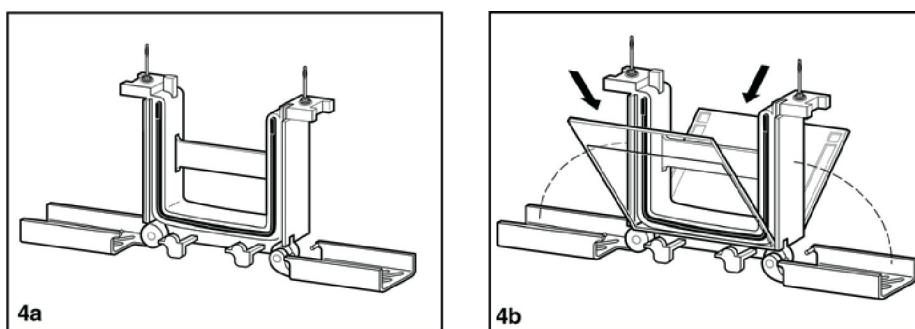

Figure 4a–4b: Loading the gel sandwiches into the electrode core
- (1) Place the gel cassette, in the open position, on a clean, level bench (see Figure 4a).